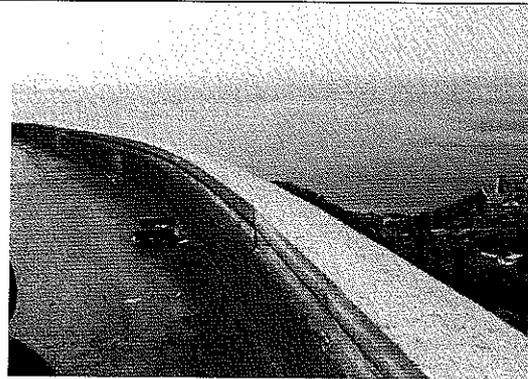

Fig.8
- Do you use wall on roadside like Fig.8?